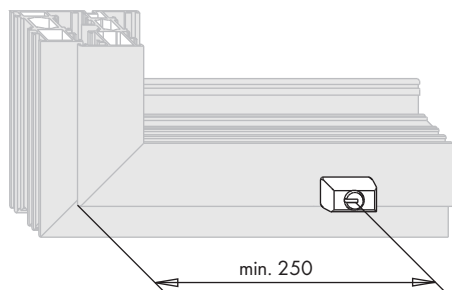

Figure 1
- Preparation** Pre drill the holes in the sash for the Turning Lock LM (1) (Figures 1 and 2) .
- Sash** Position the Turning Lock LM (1) in the corresponding holes $\varnothing 12,5$ (Figure 1) and secure with the set screws (2) (Torque $2,5 \pm 0,25$ Nm).
- A** Fix the lock (3) in the frame once aligned with the turning lock (1) by tightening the grub screws.
- B** For profiles with an upstand from 6,5 to 7,5 mm insert the packer (4) in the groove on the underside of the lock (3).